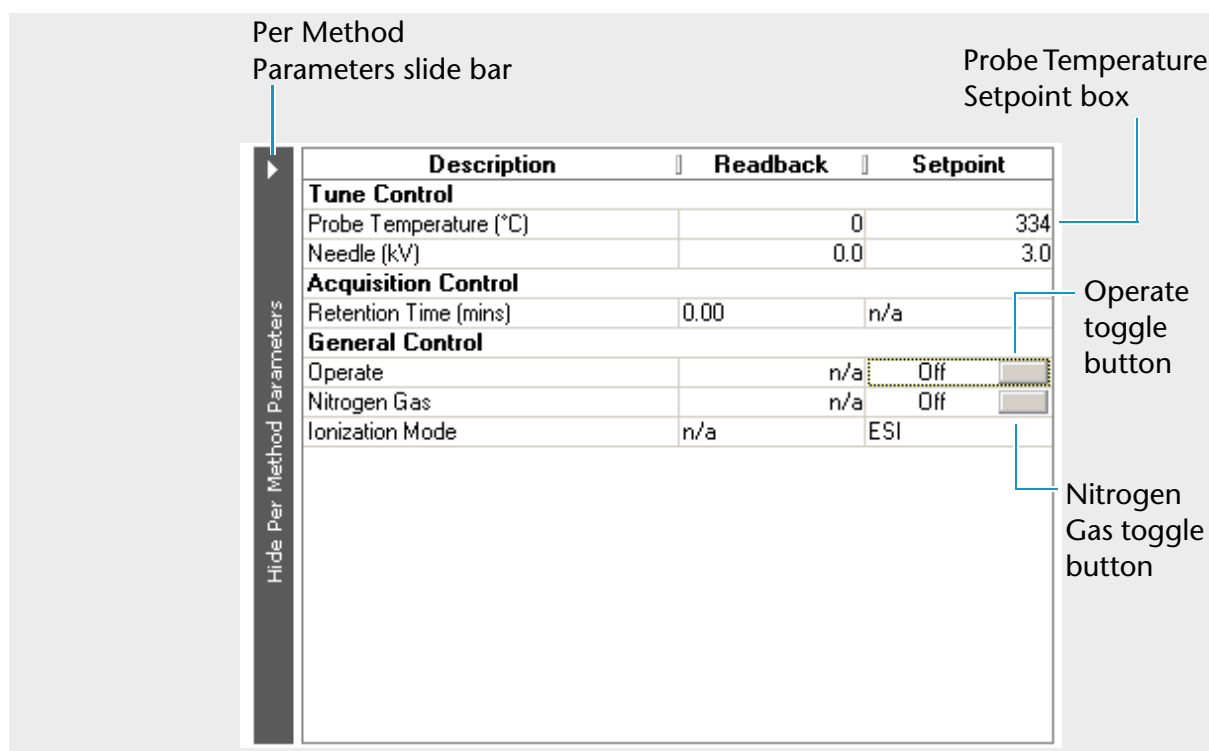

Fig. 80 Per Method Parameters table
5. If the Per Method Parameters table is not open, open it by clicking the Per Method Parameters slide bar on the right side of the Tune window, as shown in Figure 80.
6. Turn on the nitrogen gas by clicking the Nitrogen Gas toggle On/Off button in the General Control group of the Per Method Parameters table, shown in Figure 80.
7. Put the instrument into the Operate mode by clicking the toggle Operate On/Off button shown in Figure 80.
8. To set the probe temperature, click the Probe Temperature Setpoint box shown in Figure 80, and type an appropriate value for your application.